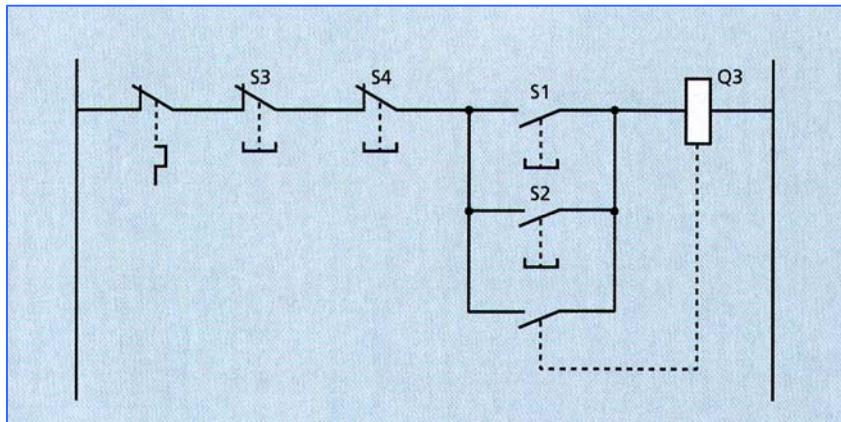

Fig.4.5 Start and stop of a motor from two separate places.
Before starting to connect this circuit, study figure 4.5.
- Add the missing numbers in figure 4.5 and connect the circuit.